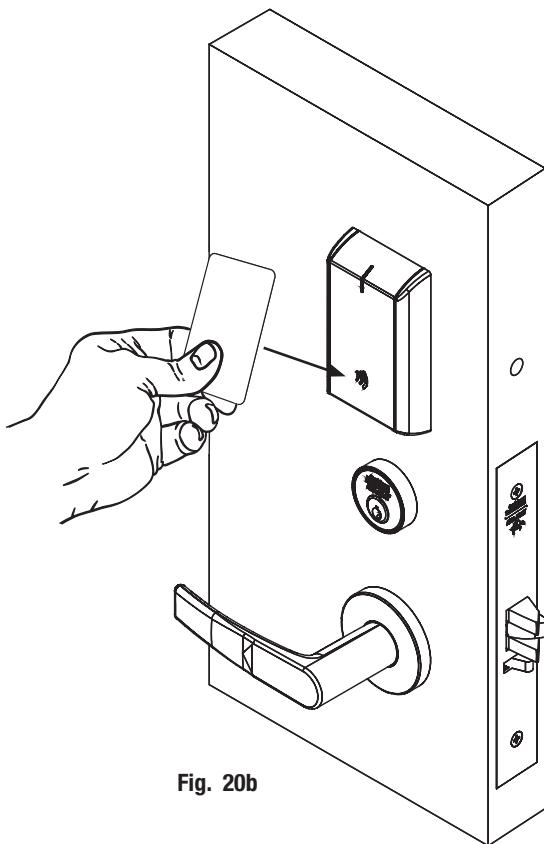

Fig. 20b
- Present a valid credential* (Fig. 20b) to unlock outside lever; turn lever handle to ensure latch retracts.
Note: The credential should approach the inscription on the reader as indicated (Fig. 20b) to ensure that the credential is read properly.